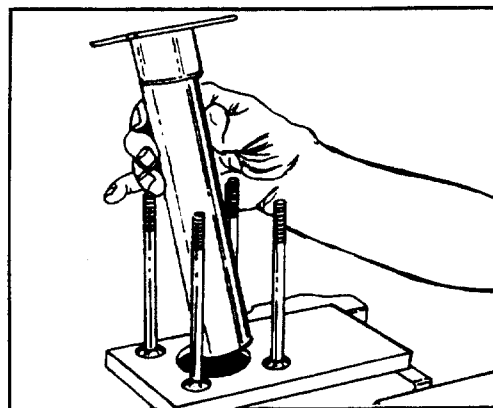

FIGURE 39.
- remove upper cover and jacket tube assembly** 48. Remove the upper cover and jacket tube assembly (37) and lay the assembly on the bench. See figure 39.
- inspect upper cover and jacket assembly** 49. The jacket tube has been pressed into and welded to the upper cover plate support tube such that the retainer plate (36) is flush with the upper cover plate surface when seated against the jacket tube. Any signs of looseness or movement of jacket tube in the upper cover support tube will require replacement of upper cover and jacket assembly (37), retainer plate (36) and bushing (38) as a set. A loose or worn input shaft/wheel